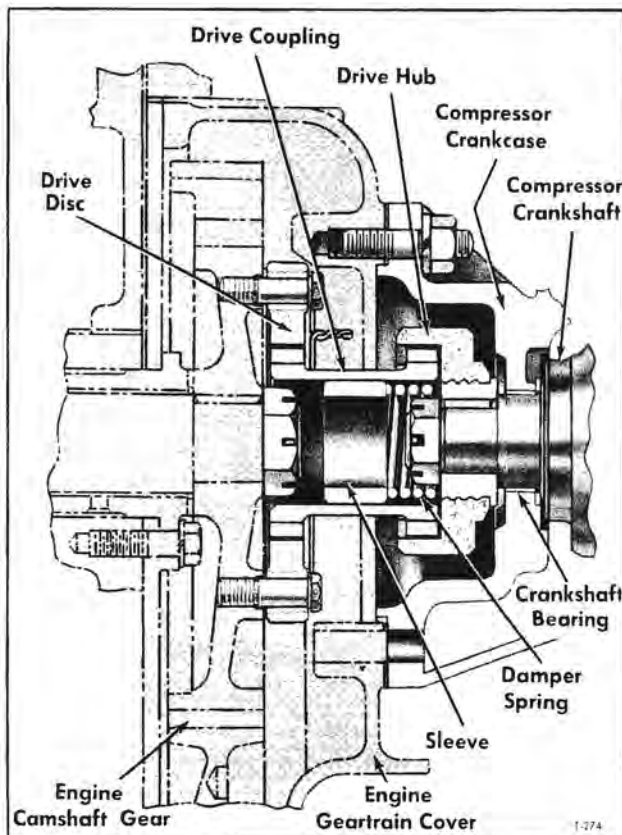

Figure 1—Air Compressor Drive (Typical)
Typical compressor drive is shown in figure 1. A hub with internal fiber teeth is keyed to front end of the compressor crankshaft and secured by a nut and cotter pin. An internal-toothed fiber drive disc is attached to the engine camshaft gear by four cap screws. A drive coupling with external teeth at
### REMOVAL (Fig. 1)
**AIR COMP. AND GOVERNOR (B-W)****INSTALLATION (Fig. 1)**